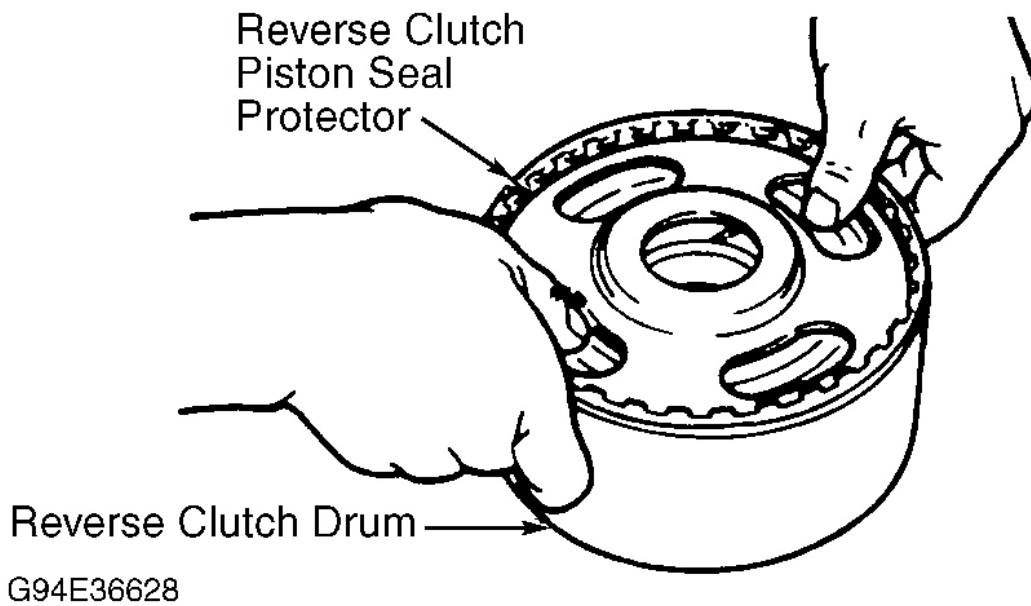

Fig. 22: Installing Piston Seal Protector
2. Before assembling reverse clutch drum, soak friction plates in transmission fluid for 15 minutes. Replace all necessary seals. Using Reverse Clutch Piston Seal Protector (T94P-77000-D2), install reverse clutch piston. See Fig. 22. Install spring assembly. Compress spring assembly and install retaining snap ring. Install clutch discs and pressure plate. See Fig. 21.